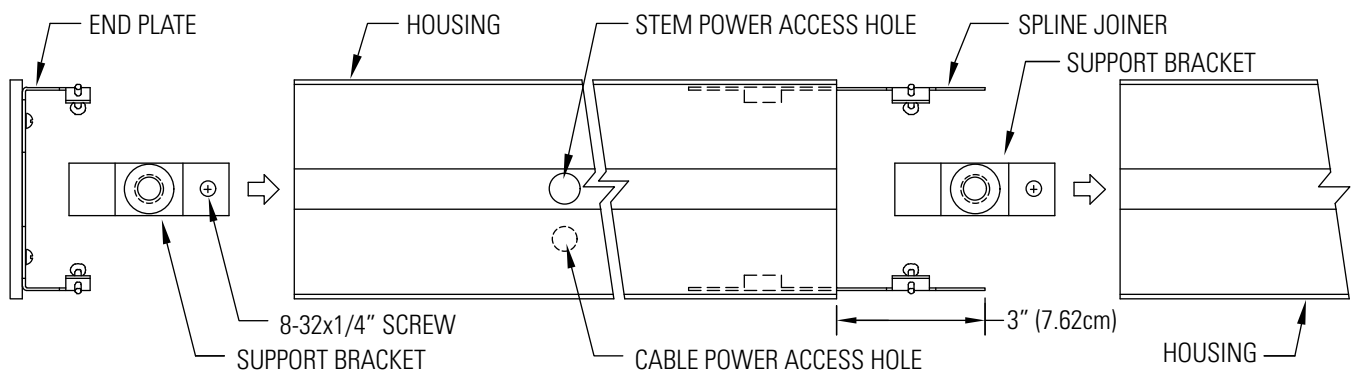

Figure 4
- B. Thread CABLE or STEM through the SUPPORT BRACKET. (Fig. 4)
- C. Align center of SUPPORT BRACKET onto hole in the HOUSING and fasten securely with (1) 8-32 x 1/4" SCREW.
- A. Install END PLATES into the starter fixture HOUSING and fasten securely. (Fig. 4)
- A. Align SPLINE JOINERS and fasten securely. (Fig. 4)
- D. Slide SPLINE JOINERS from previous HOUSING into the next HOUSING. Fasten securely. (Fig. 4)